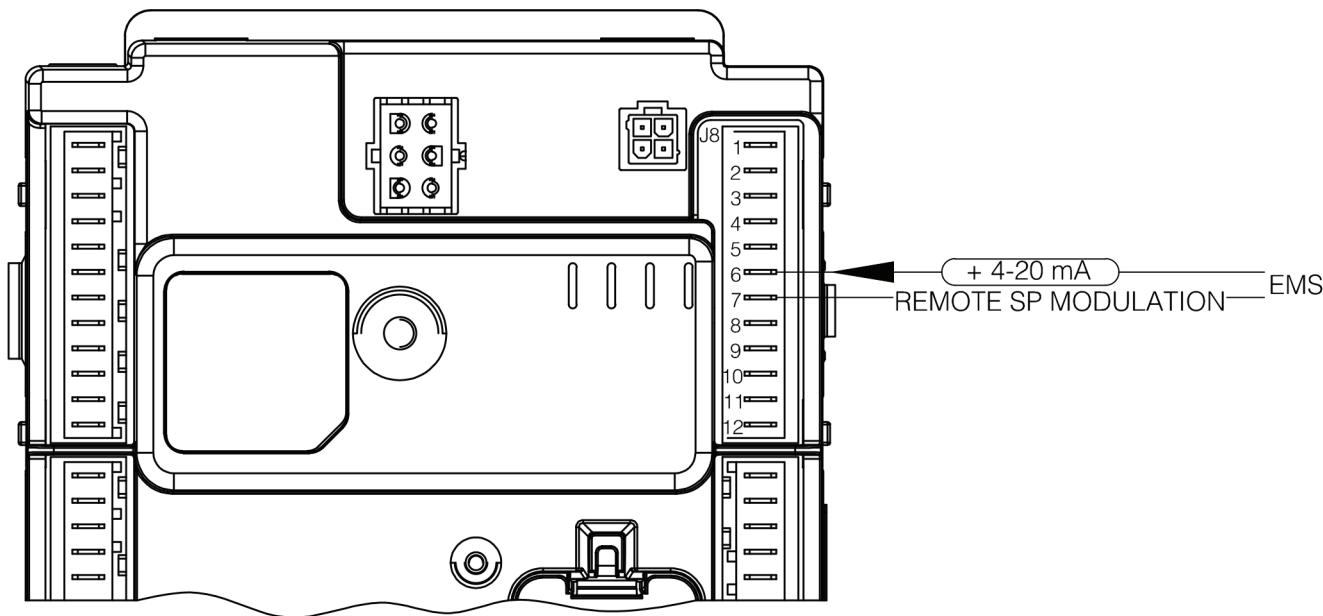

Figure 11.5: 4-20 mA EMS Field Wiring
- d. 4-20 mA Energy Management System (EMS) - A 4-20 mA EMS may be wired to the Sage controller (Figure 11.5). Manufacturer part numbers for contacts (field supplied) required to install wire leads in JST housing are: